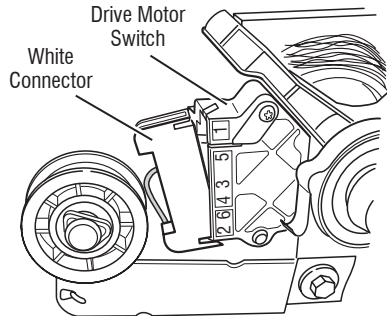

Figure 6 - Remove white connector
8. Remove the white connector from the drive motor switch. See figure 6.